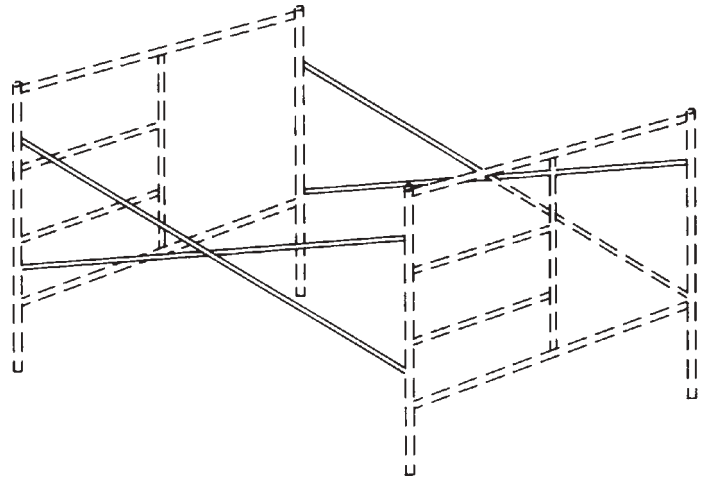

Fig. 2
- Insert casters and secure with attaching pin or bolt. Set brakes on all casters (Fig. 2) before proceeding with tower erection. If leveling casters or extensions are used, secure with stem retainer clamp, wire, or other suitable means (Fig. 3). Do not extend leveling screws more than 12". If application does not call for a Rolling Tower, follow above procedure and replace casters with leveling jacks (Fig. 4) or base plates (Fig. 5) on mud sills.